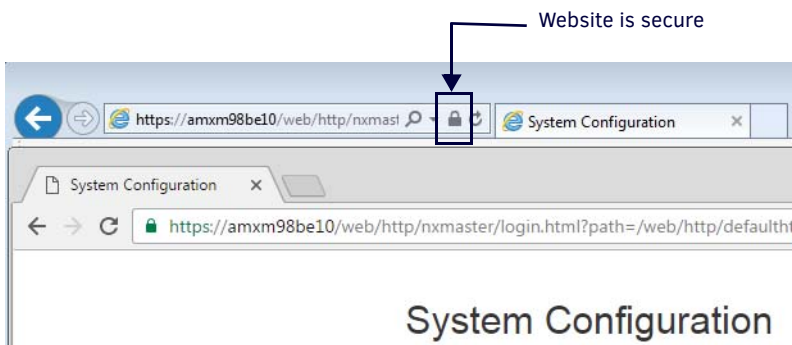

FIG. 65 Secure Website
9. Restart the browser or open a new browser, and navigate to the hostname of the Master. You should see a secure lock symbol in the address bar (FIG. 65).